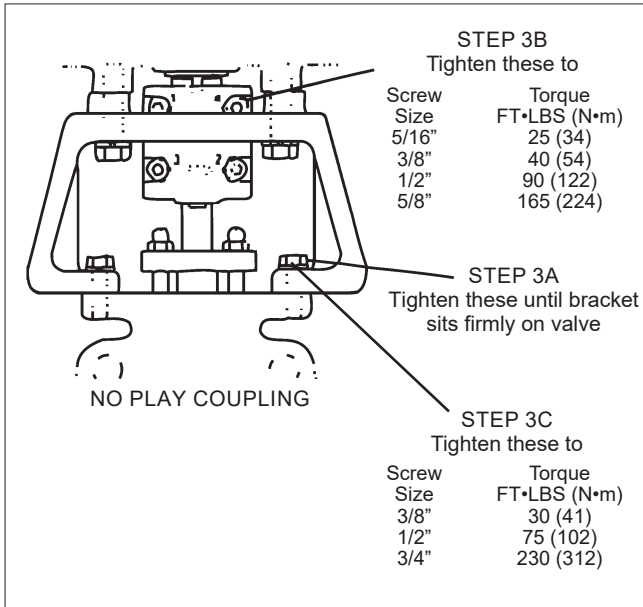

Figure 16
4. Lower actuator and bracket onto valve while engaging actuator stem driver into coupling. Tighten screws just enough to firmly mate bracket to valve. This should allow bracket to shift, allowing the coupling to align the valve and actuator shafts **(See Figure 16, Step 3A.)**
5. Tighten the no-play coupling screws to torques shown in **(Figure 16, Step 3B)**. Use alternating sequence shown.
7. Fully tighten the screws holding the bracket to the valve, as shown in **(Figure 16, Step 3C)**.
8. Recheck no-play coupling screw torques, using the torques in **(Figure 16, Step 3B)**. Use alternating sequence shown.